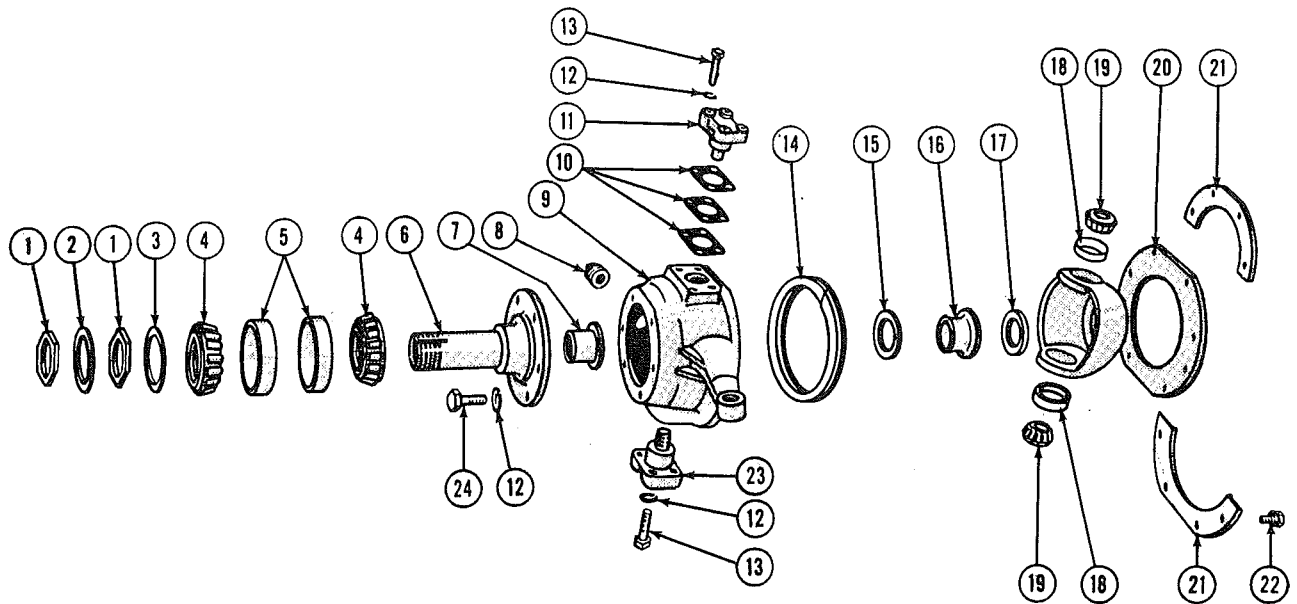
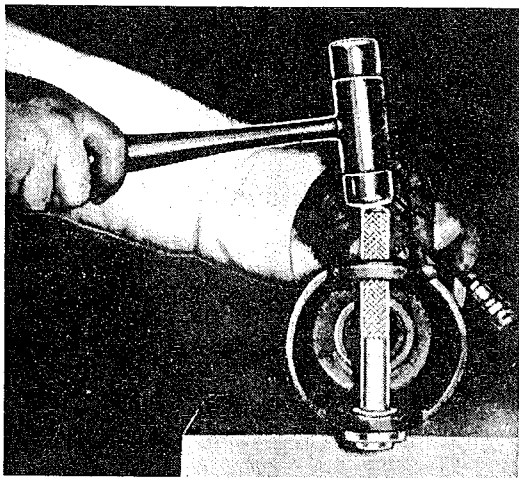

FIG. 130 - STEERING KNUCKLE AND WHEEL BEARINGS
FIG. 134 - SPINDLE PIN BEARING CUP DRIVER
h. Remove spindle (6) and bushing (7) shown in Fig. 130.
a. Remove the eight bolts (22) shown in Fig. 130 which hold the oil seal retainer (21) in place.
b. Remove the four screws holding the lower pivot pin bearing cap (23). Remove the four screws holding the upper bearing cap in place. Remove the bearing cap. The steering knuckle (9) can now be removed from the axle.
c. Wash all parts in cleaning solvent. Replace any damaged or worn parts. Inspect the bearing and races for scores, cracks, or chips. Should the bearing cups be damaged, they may be removed and installed with Special Driver, Tool W-138, as shown in Fig. 134.